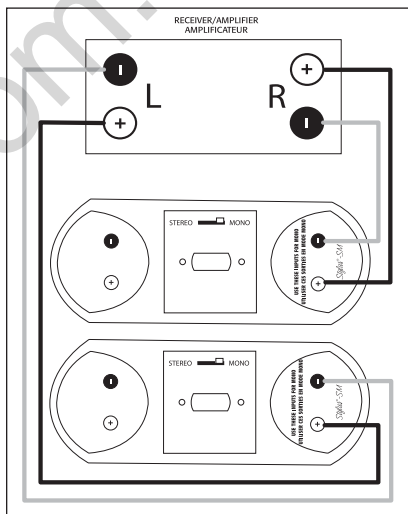

Fig. 5c **Wiring two speakers for Wide Dispersion Stereo sound using the Mono inputs on each speaker**
**Mono Input** (Wide dispersion stereo sound from two speakers) (Fig. 5c)